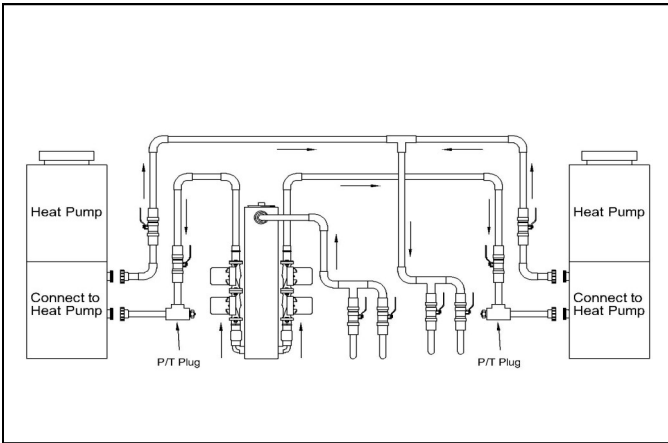
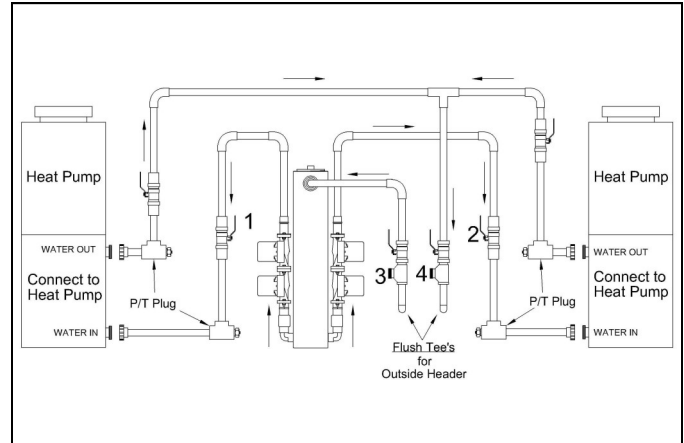

Fig. 3. Recommended Piping Schematic For Maximum Flexibility (Required With Internal Headers)
Fig. 4. Recommended Schematic (For Use with Underground Headers; Flush Cart Required)
Fig. 3 illustrates a recommended piping schematic that can be utilized when an internal header is used and separate purging of the heat pump and the ground loop is not required. It is recommended that a tee with a threaded plug is located between the heat pump and the ground loop. This plug allows the air to be vented from the system piping and will help remove air from the system during start up.
Fig. 4 illustrates a recommended piping schematic for a system with underground headers. Piping is similar for either schematic with the exception of **Fig. 3** showing all earth loops penetrating the mechanical area of the interior wall. Provide ball valves and P/T ports where indicated. Ball valves shall be the same as pipe size or greater. The flow center should be fastened to the wall with the bracket provided and all piping should be adequately supported. All piping shall be properly sized for the flow rate (GPM) required by the system. Reduce pipe size only at flow center/heat pump as necessary to make connections.
4. Close all loop header valves except one pair (**See Fig. 3**).